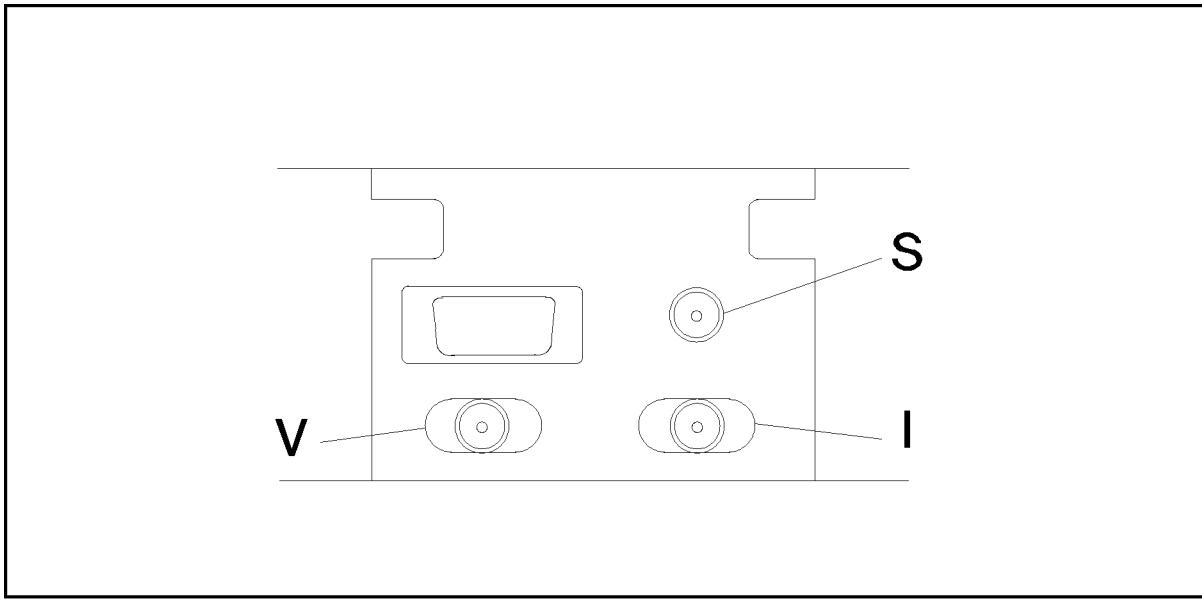

Figure 9-4. Test Station Connectors Locations
1. Press **Preset**, **System**, **SERVICE MENUS**, **TESTS**, **②**, **⑥**, **⑩** to access the TRANSDUCER LOSS test. When “TRANSDUCER LOSS” is displayed, press **EXECUTE TEST**.
2. Perform the test according to the displayed instructions. Test station connector locations are shown in Figure 9-4.
3. Press **⑩** to access the CABLE ISOL’N test. When “CABLE ISOL’N” is displayed, press **EXECUTE TEST**.
5. Press **⑩** to access the TRD ISOL’N I to V test. When “TRD ISOL’N I to V” is displayed, press **EXECUTE TEST**.
6. Perform the test according to the displayed instructions. Test station connector locations are shown in Figure 9-4.
8. Perform the test according to the displayed instructions. Test station connector locations are shown in Figure 9-4.
10. Press **EXECUTE TEST** and perform the test according to the displayed instructions. Test station connector locations are shown in Figure 9-4.